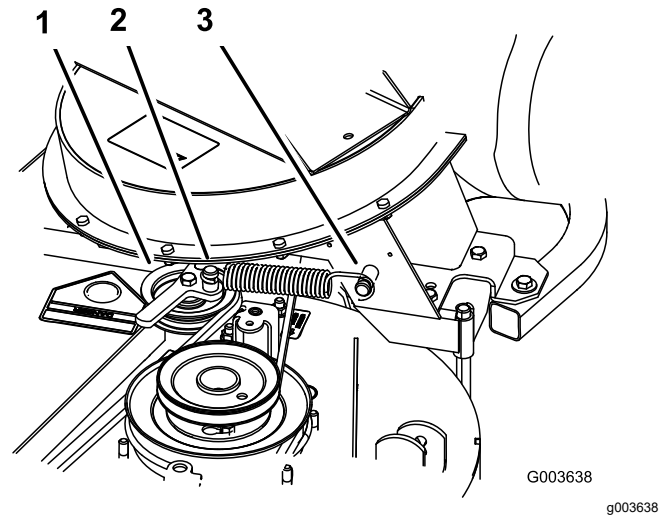

Figure 40
6. Install the spring as shown in Figure 40.